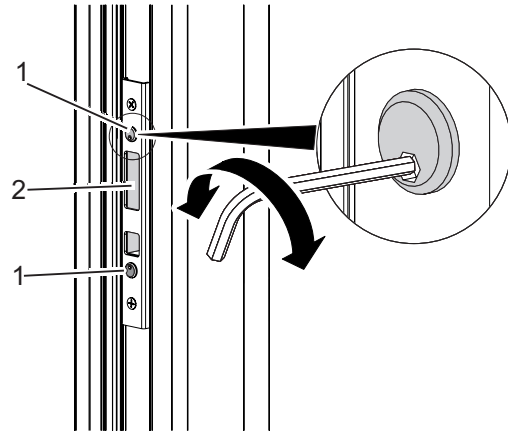

Fig. 40: Adjusting the auxiliary lock
1. Turn the adjusting screws (Fig. 40/1) using a hexagon wrench.
- The inner insert (Fig. 40/2) will be slightly moved into the desired direction.
- ☞ Brush seals (Fig. 40/1) are pulled into the profiles on the front sides.
- ☞ Brush seals (Fig. 40/1) are inserted at the front sides into the profiles.
- ☞ Brush seals (Fig. 40/1) are inserted at the upper front side.